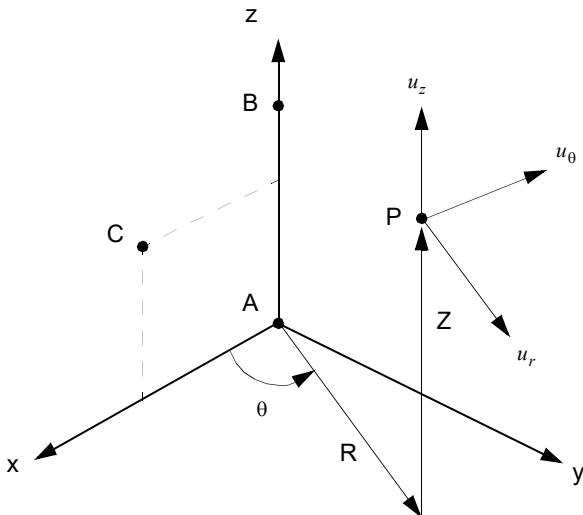

Figure 9-43 CORD2C Definition
5. The location of a grid point (P in Figure 9-43) in this coordinate system is given by (R, θ, Z), where θ is measured in degrees.